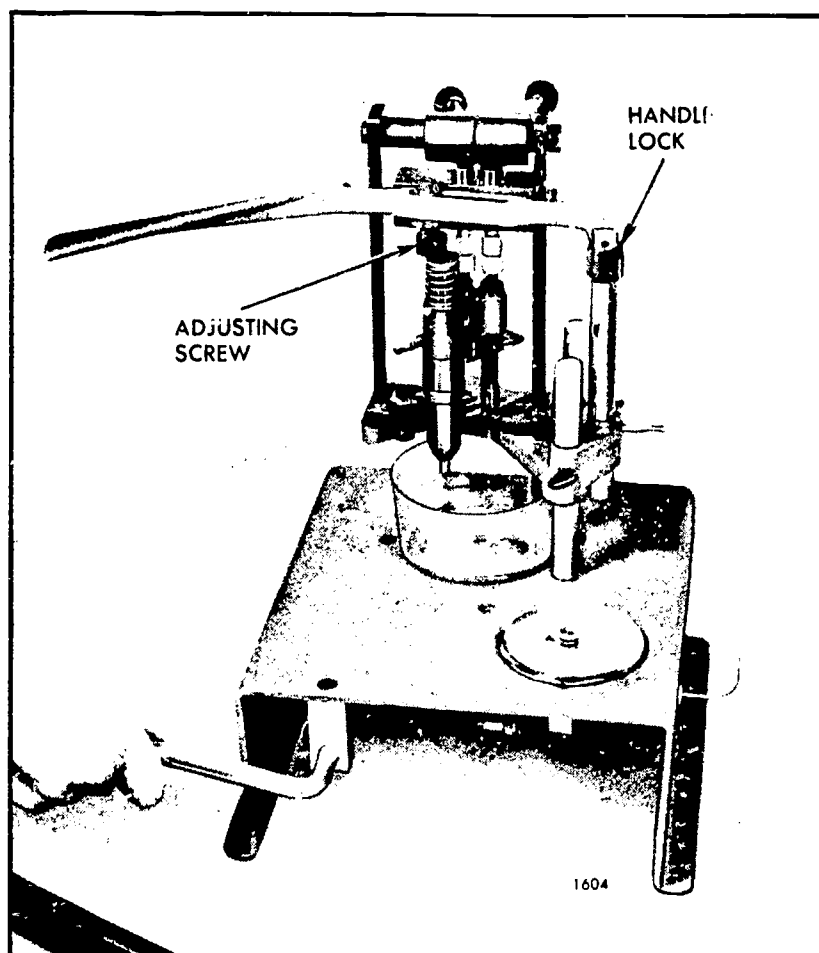

Fig. 14 High pressure test.
- c. With the injector rake in FULL FUEL position and the popping handle locked in position (see Figure 14) operate the pump handle to build up and maintain pressure.